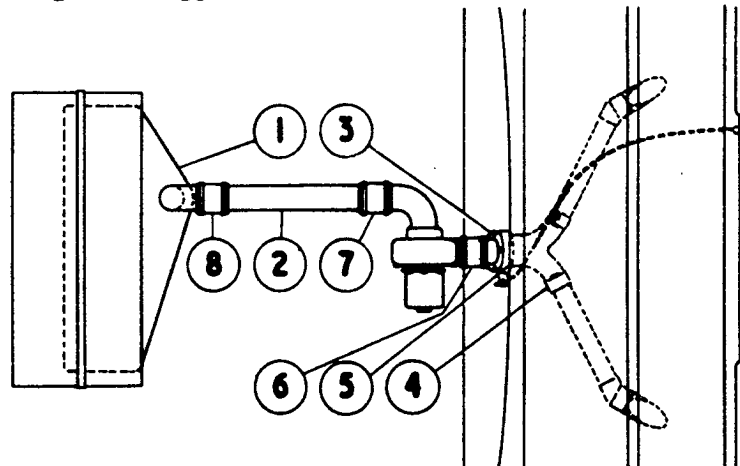

FIG. 3. IMPROVED TYPE DEMISTER SYSTEM.
The improved type demister system is shown in Fig. 3, and it will be seen that it is, in general appearance and operation, similar to existing types.
- 1) Fit the metal air duct (1, Fig.3) below the radiator header tank as shown, securing this to the rear flange of the tank by means of the two clips and then tightening the hinged strap round both the tank and the duct. (N.B. To fit the strap, first remove the hinge pin, pass one of the disconnected ends of the strap over the top of the tank and under the overflow pipe, and then refit the pin and tighten up).